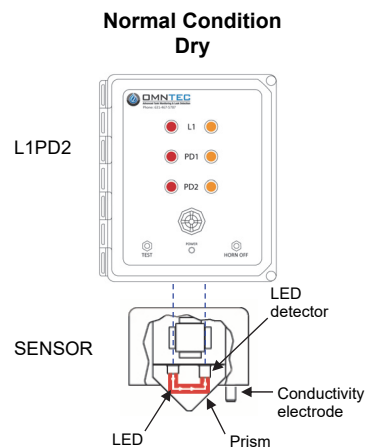

Figure 1
2. If sensors are not in alarm, all Red and Amber lights should be off (see figure 1)